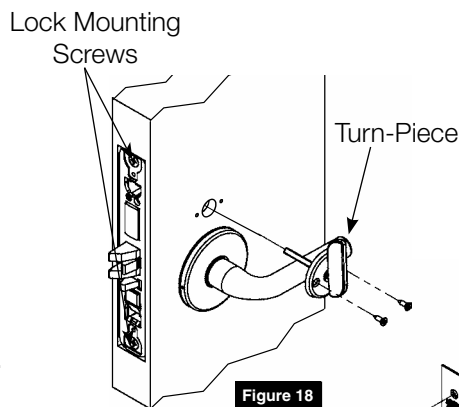

Figure 18
11. Mount turn-piece or emergency key. (Figure 18)